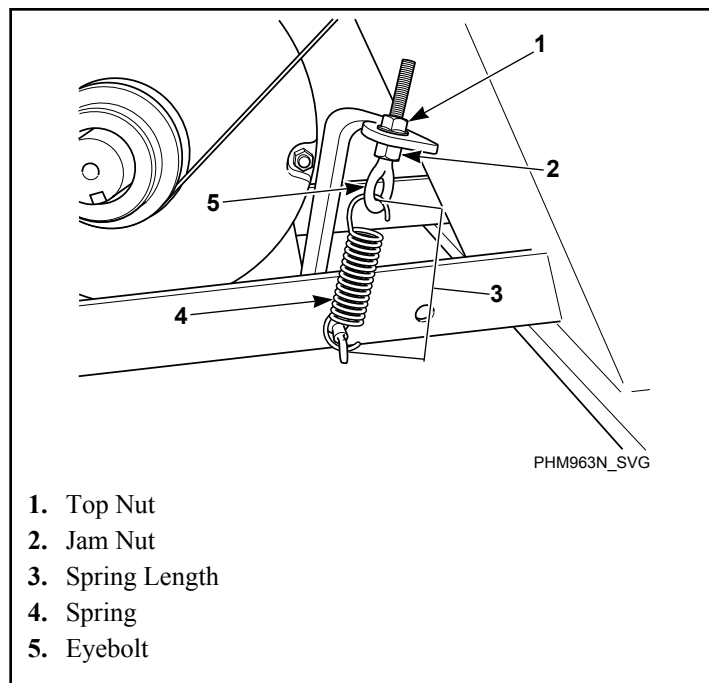

Figure 41
**NOTE:** Basket pulley must be rotated three (3) full turns before assessing belt tension after every adjustment.
- **Frequency Gauge.** Tighten eyebolt top nut until the correct frequency (refer to *Table 42*) is obtained mid-span. Torque jam nut to spring bracket to  $20.6 \pm 2$  ft.-lbs. Refer to *Figure 41*.
- **Tension Gauge.** Tighten eyebolt top nut until the proper belt gauge (refer to *Table 42*) is obtained mid-span. Torque jam nut to spring bracket to  $20.6 \pm 2$  ft.-lbs. Refer to *Figure 41*.
- **Spring Length.** Tighten eyebolt top nut until the spring measures the correct distance between the hooks. Refer to *Table 40*. Torque jam nut to spring bracket to  $20.6 \pm 2$  ft.-lbs. Refer to *Figure 41*.
- **Maintain Tension During Belt Removal.** If proper tension is achieved, tape the jam nut in place and loosen eyebolt top nut to release the belt. Replace belt and retighten eyebolt top nut back to jam nut position. Refer to *Figure 41*.